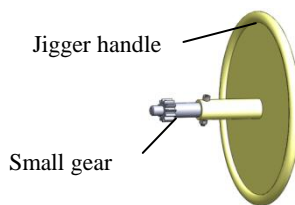

Figure 28
2. Use a screw to connect the small gear and jigger handle together, shown as figure 28;